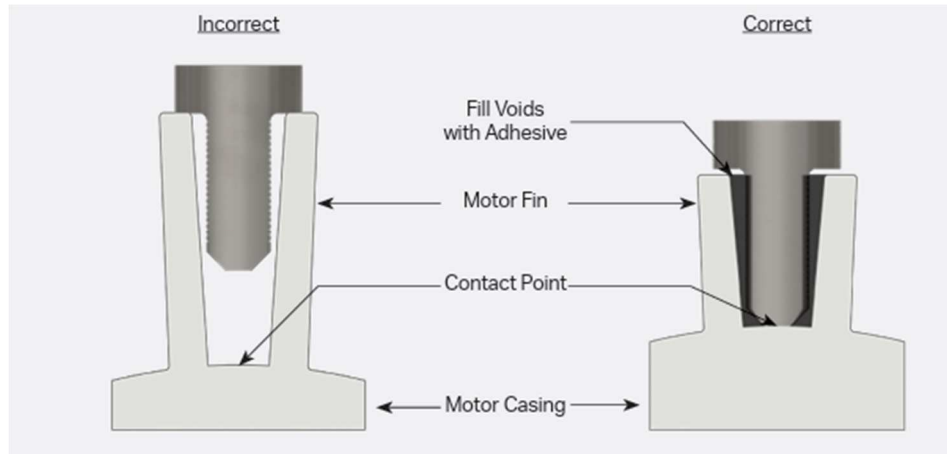

Figure 30.- Motor fin mount pad – Procedure installation
- a. Avoid placing the motor fin mount pad on the top of the fins, since this may prevent direct contact with the motor casing (see Figure 30 below, left).
- b. The motor fin mount pad tip should be as flat as possible against the motor casing (see Figure 30).